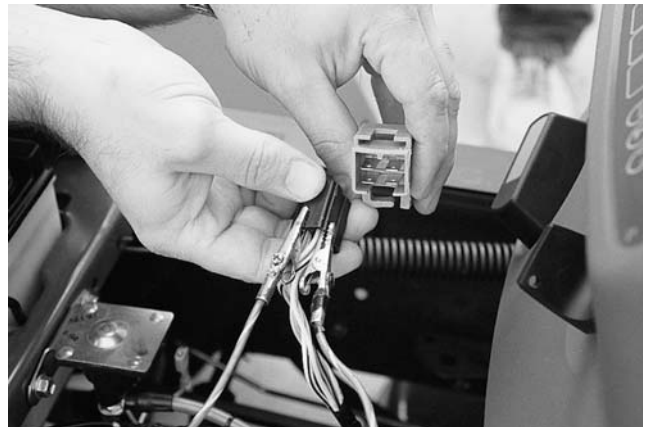

Figure 3-35.
19. If the unit does not crank, make sure the clutch/brake pedal switch is fully depressed. Remove the switch and jump a wire between the two orange terminals. See Figure 3-35.